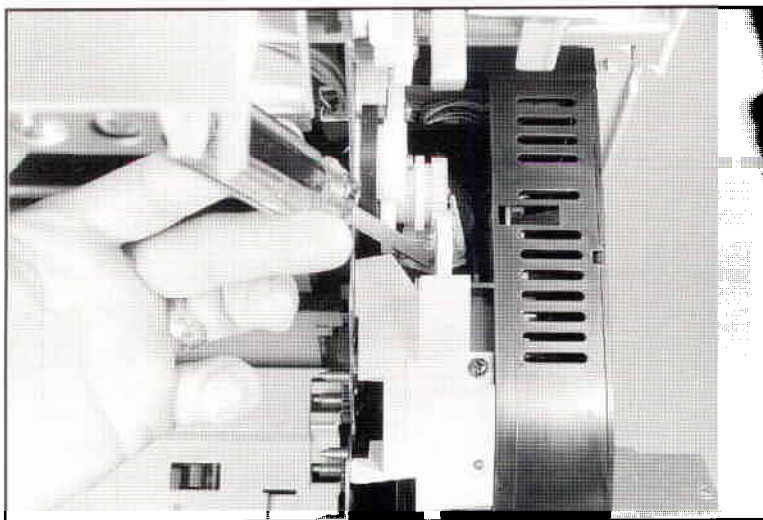

Figure 7-11 Releasing the Pressure Cam Home Solenoid
3. Open the Top Cover, remove the Print Drum, and release the Cam Solenoid (SL4), as shown in Figure 7-11.